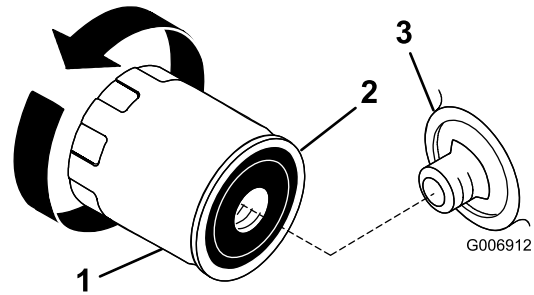

Figure 20
- Remove the old oil filter and wipe the filter adapter (Figure 20) gasket surface.
- Apply a thin coat of new oil to the rubber gasket on the new oil filter (Figure 20).
- Turn the oil filter clockwise until the rubber gasket contacts the filter adapter, then tighten the oil filter an additional 1/2 to 3/4 turn (Figure 20).